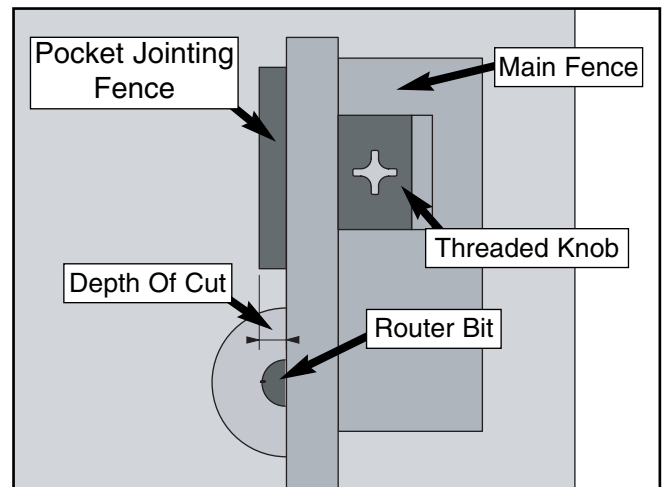

Figure 19. Proper setup for jointing an edge.
4. Loosen the threaded knob on the pocket jointing fence and slide the pocket jointing fence from the main fence to the desired depth of cut (**Figure 19**). Tighten the threaded knob when adjusted correctly. *Note—The face of the pocket jointing fence must be parallel to the main fence face before performing any routing operations.*